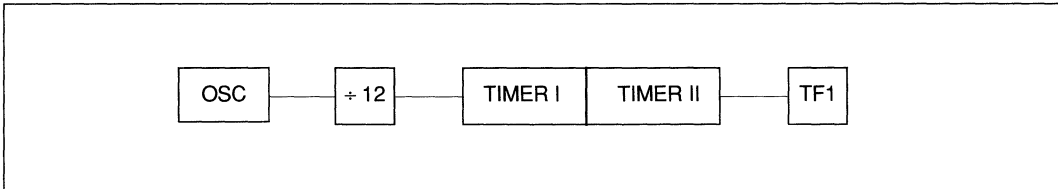

Figure 17 : 32-Bit Timer Configuration.
- Figure 17 illustrates the 32-Bit TIMER mode.